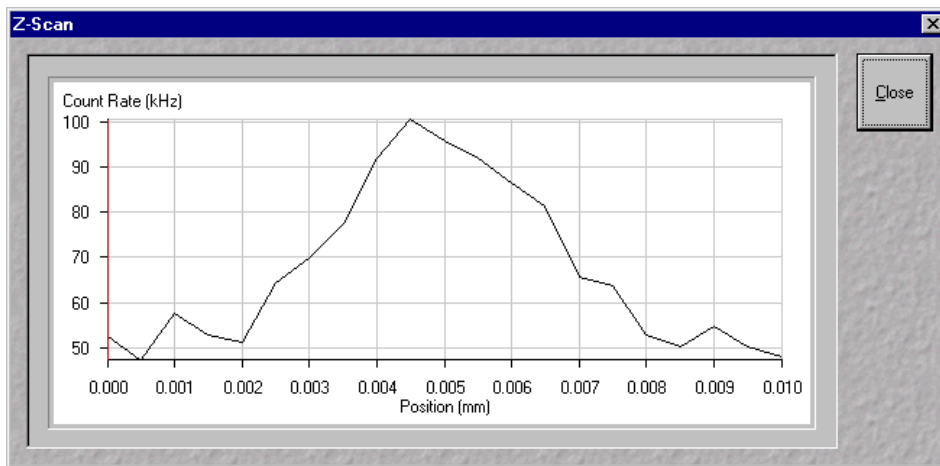

Fig. 4-28 Z-Scan result window
This means, that the focus is moved in either the X, Y, or Z direction over a preselected distance while the count rate in one or both of the detection channels as defined by the channel check boxes is recorded. A maximum (or minimum) in the resulting curve (Fig. 4-28) usually indicates a region of interest. The focus can be positioned to this region by a simple mouse click.
- Clicking on **Start** opens a new window showing a count rate graph (Fig. 4-28).